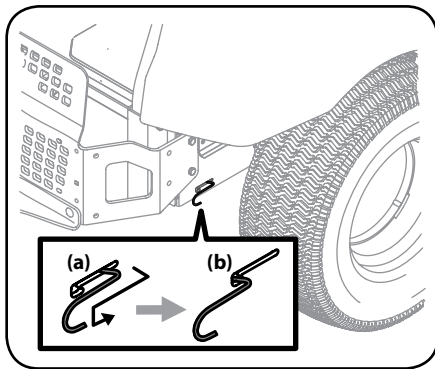

Figure 4-7
1. From the rear of the tractor, just inside the two rear tires, locate the transmission bypass rods. Refer to Figure 4-7.
2. Engage the transmission bypass rods, one on each side of the tractor, to move the tractor manually without starting it. Engage the bypass rods by pulling each one back (a) and hooking it into the slot (b) to lock it into place. See Figure 4-7.
3. Disengage the bypass rods by reversing steps (a) and (b) after moving the tractor. See Figure 4-7.